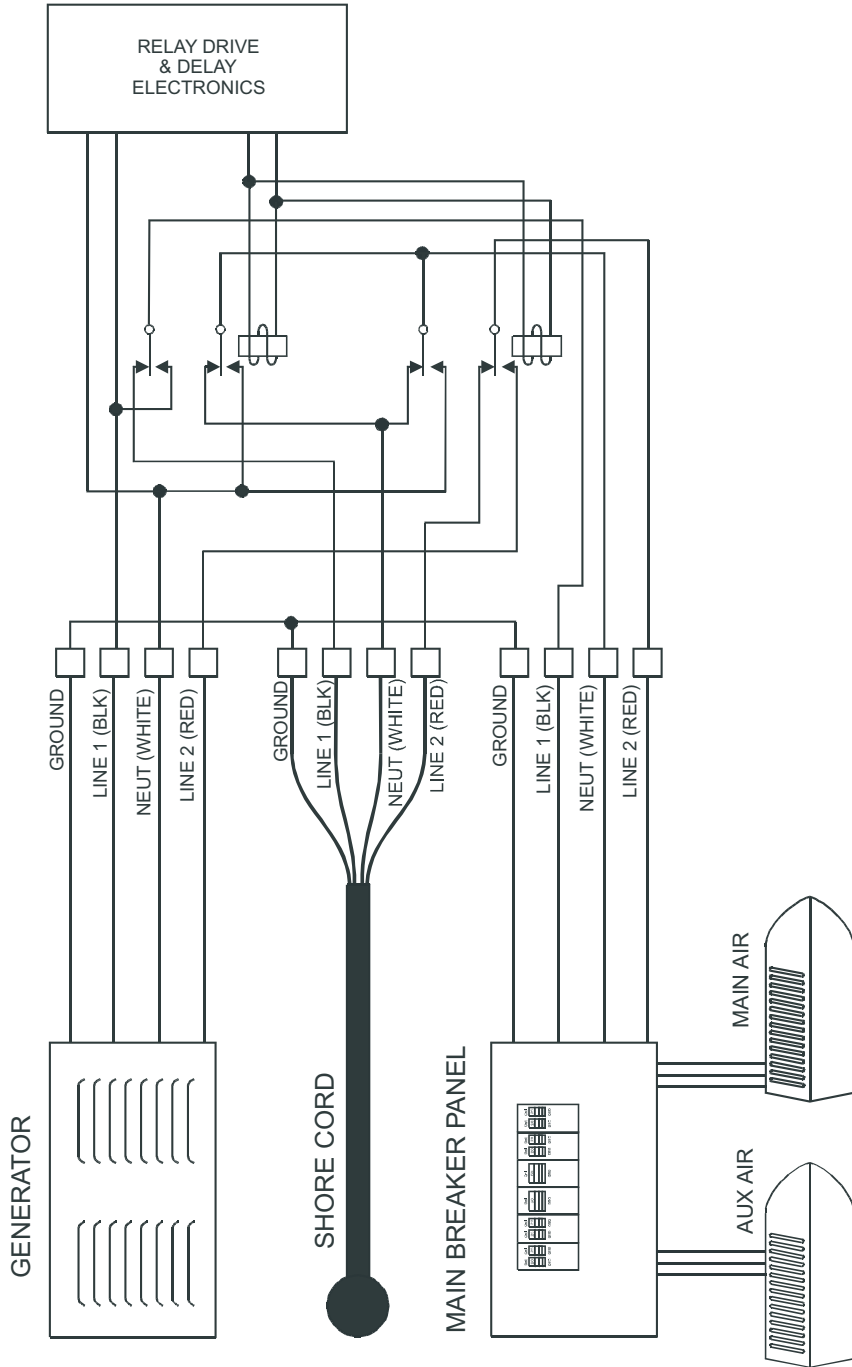

FIGURE 3
*Typical connections for 50 Amp service are shown in Figure 3.*